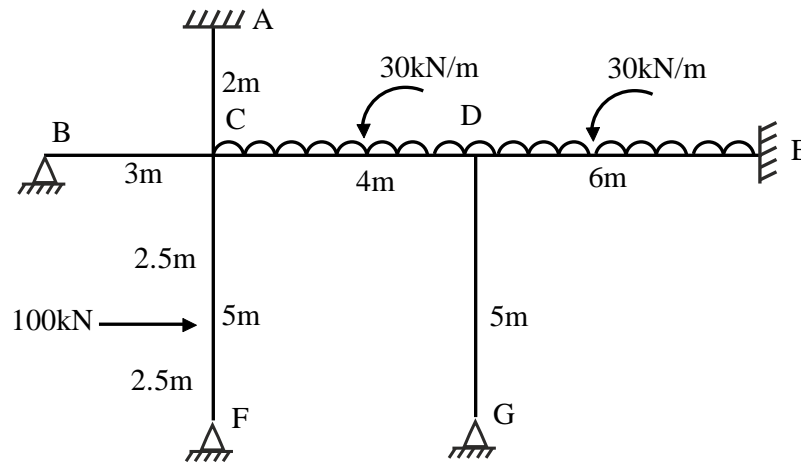

Fig:9
10. Using stiffness method, analyse the rigid jointed plane frame shown in fig : 9. Assume uniform flexural rigidity for all members as EI. Neglect axial deformations. 13